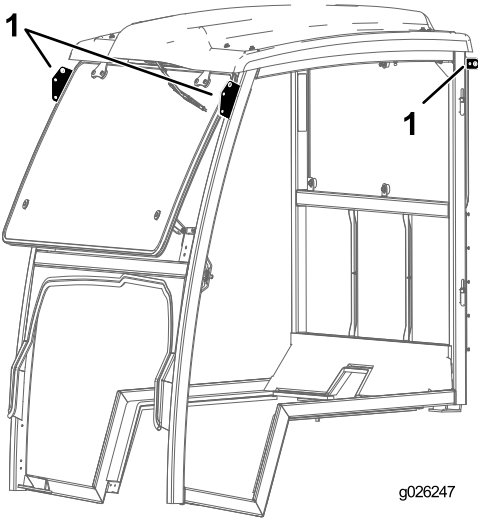

Figure 31
5. Hold the cab frame using the lifting points and place it on the machine (Figure 31).